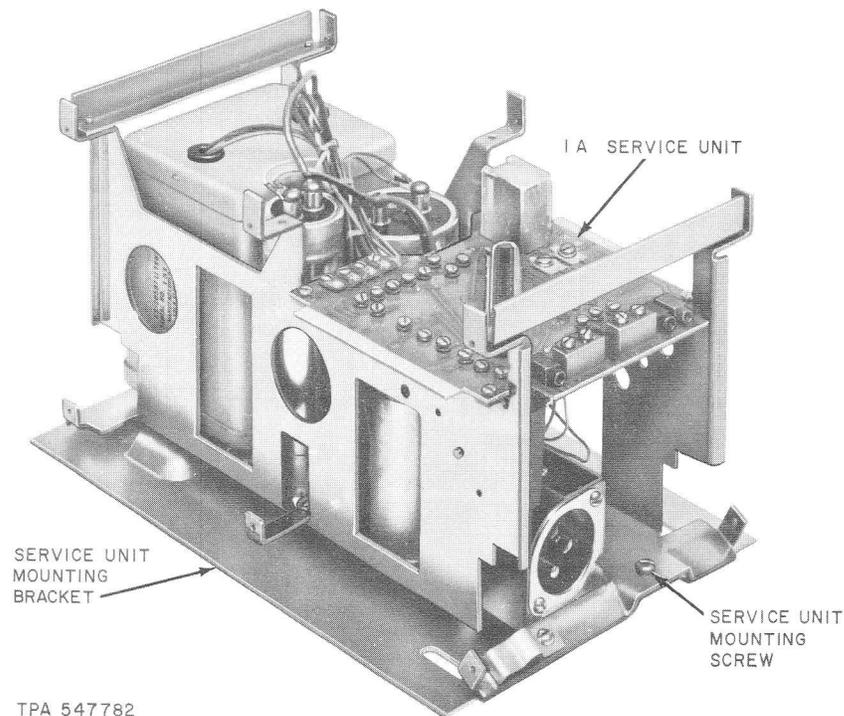
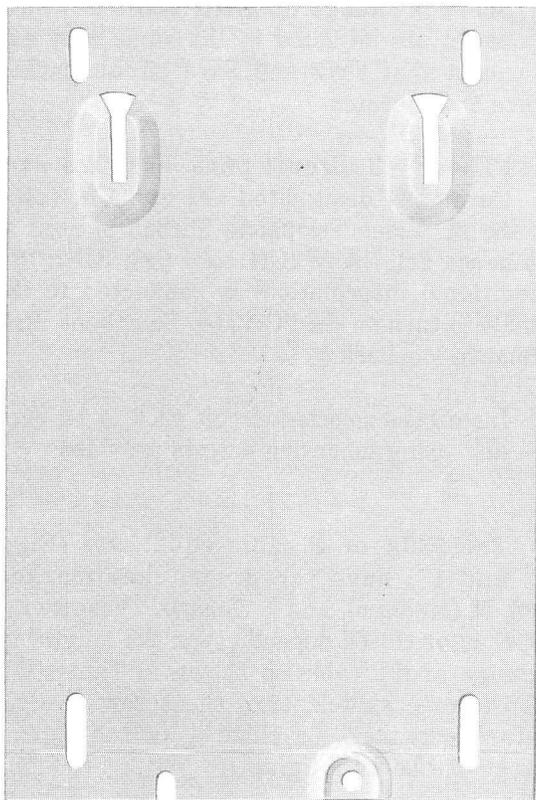

Fig. 14—1A Service Unit and Mounting Bracket
Fig. 15—1A Service Unit Mounting Bracket
**3.15** Separate 1A service unit (Fig. 14) from mounting bracket (Fig. 15).
**3.16** Install mounting bracket (Fig. 15) vertically on wall (or suitable vertical surface) using appropriate fasteners for the weight of the unit.